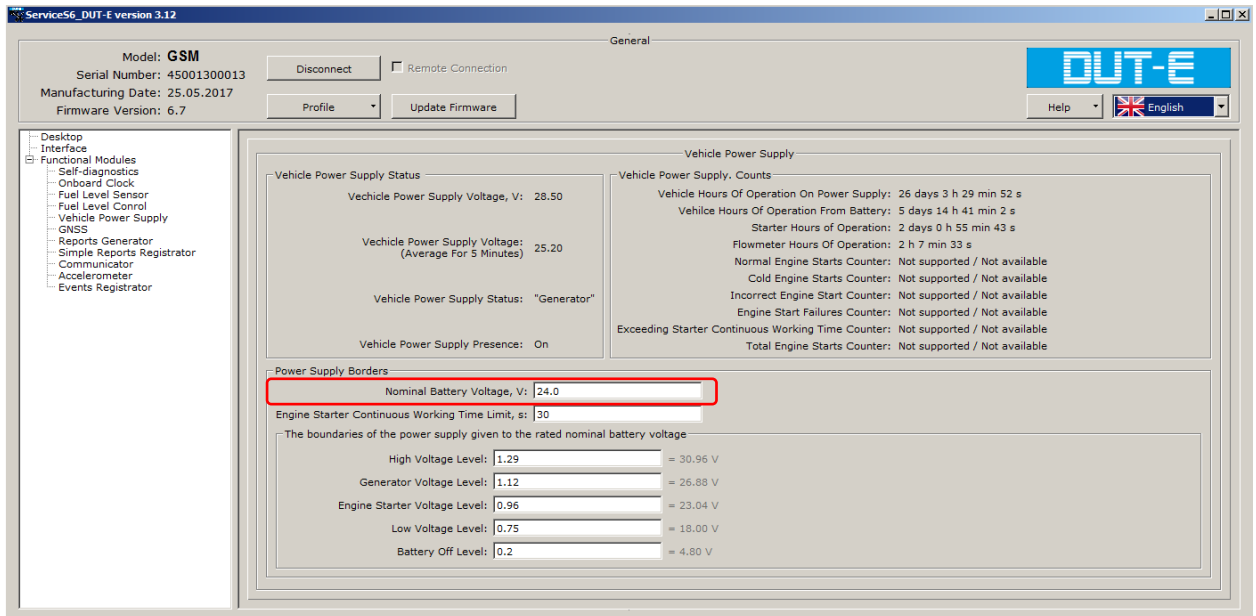
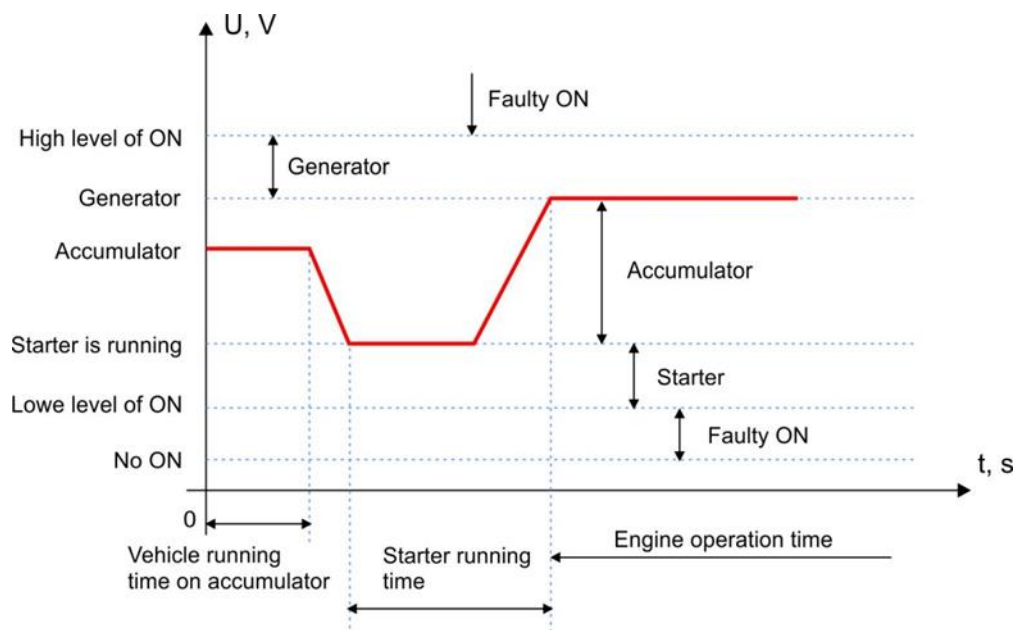

Figure 1 — Window of settings of Vehicle power supply FM in Service S6 DUT-E software
Figure 2 — Operation modes as per onboard network (ON) voltage level
2) In Vehicle power supply FM settings menu, enter a value of voltage, which corresponds to Vehicle's onboard network voltage (see figure 1). Onboard network operation modes boundaries can be adjusted using coefficients, if needed (see figure 2).